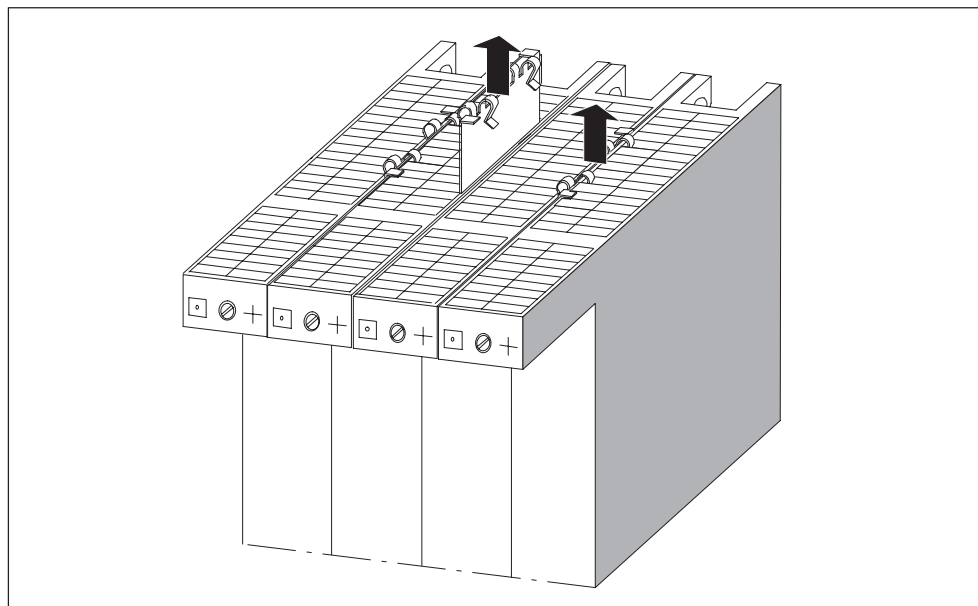

Figure 3-7 Remove the Connecting Clips Between the Modules
9. Remove the left and right connecting clips from the top and bottom of the module assembly (Figure 3-7).